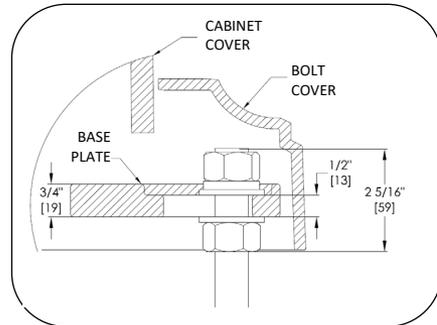

Fig. 4 – Proper installed anchor height
5. Lift the pole into position over the installed anchor bolts as shown in Fig. 4. Ensure that the base plate is resting on all four washers.